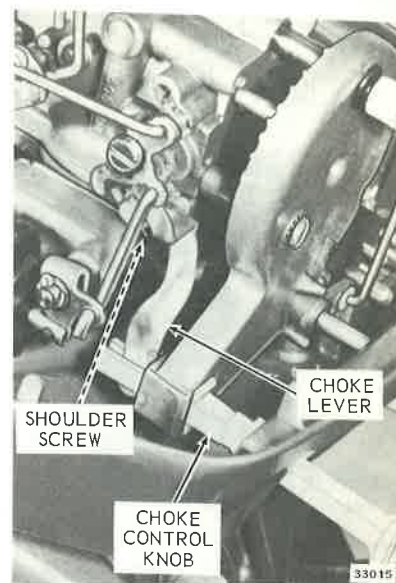

Figure 3-4a. Removing Choke Knob
- Remove shoulder screw and choke lever to remove choke control knob from carburetor. Lift up on choke arm to remove choke control knob from carburetor. See Figure 3-4a.